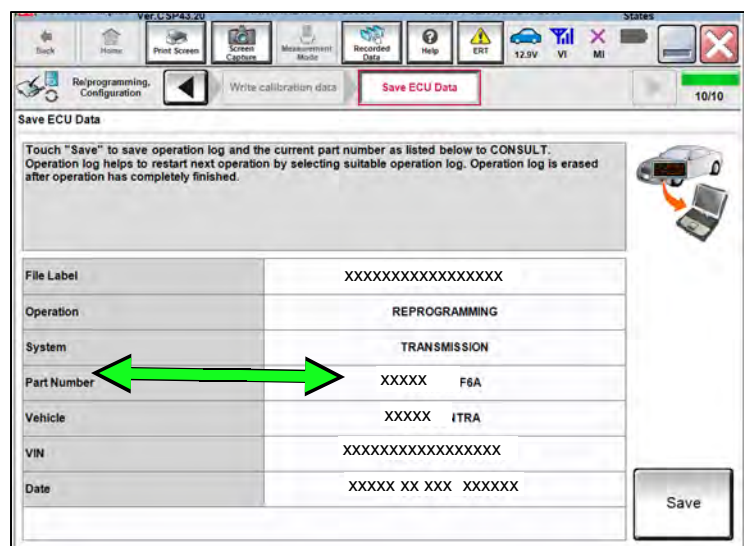

Figure 245
- 233. Find the TCM **Part Number** (Figure 245) and write it on the repair order.